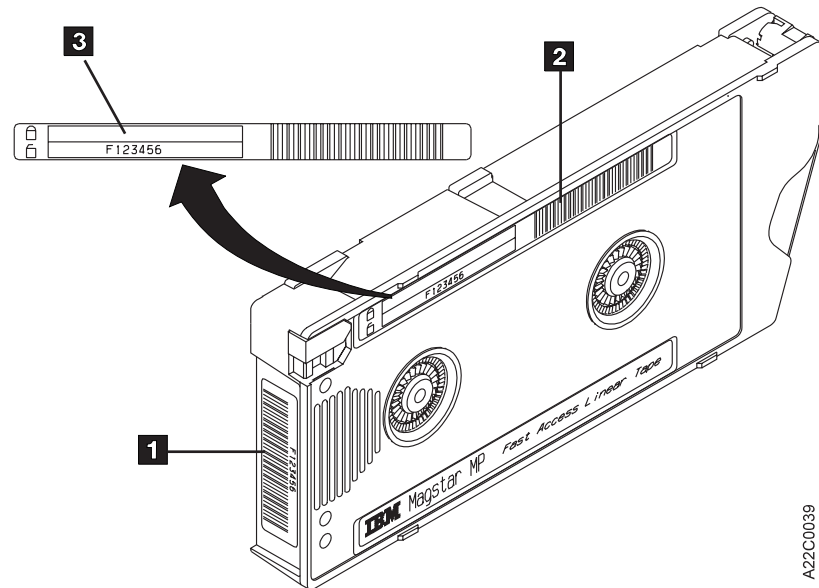

Figure 4. Magstar MP Tape Cartridge Labels
- The bar code is seven characters in length not including the start/stop characters. The first character (left-most character) is the media type character and is an upper case “F” for all Magstar MP cartridges (see **3** in Figure 4).
- The bar code is located on two labels on the Magstar MP cartridge. (See **1** and **2** in Figure 4).